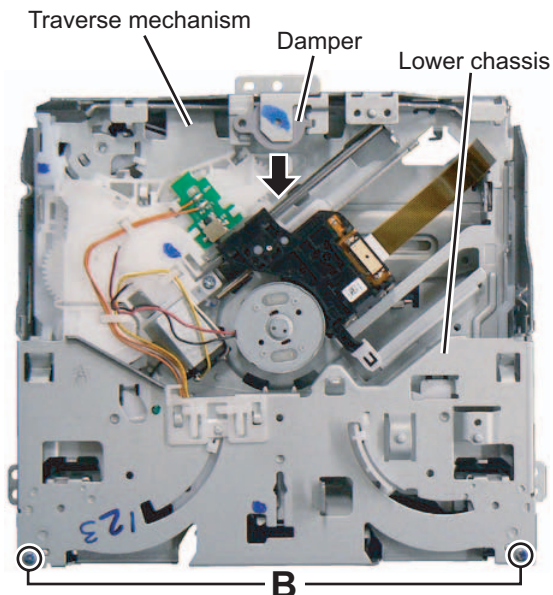

Fig.5
(See Fig.5)
- (4) Remove the Traverse mechanism. (See Fig.5)